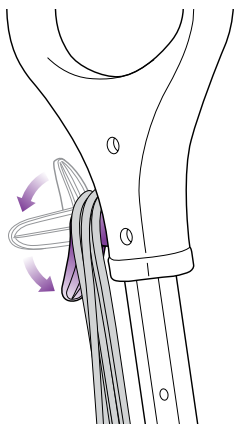

fig. 6
- 1 Pull and twist the quick release cord holder to unwrap the power cord completely. Plug into a 120-volt electrical outlet. (fig. 6)